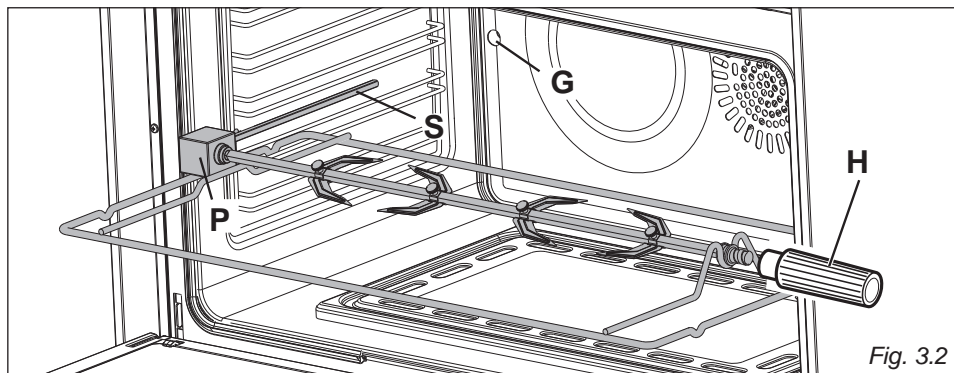

Fig. 3.2
- Insert the rod into the side gear opening "P" (fig. 3.2)